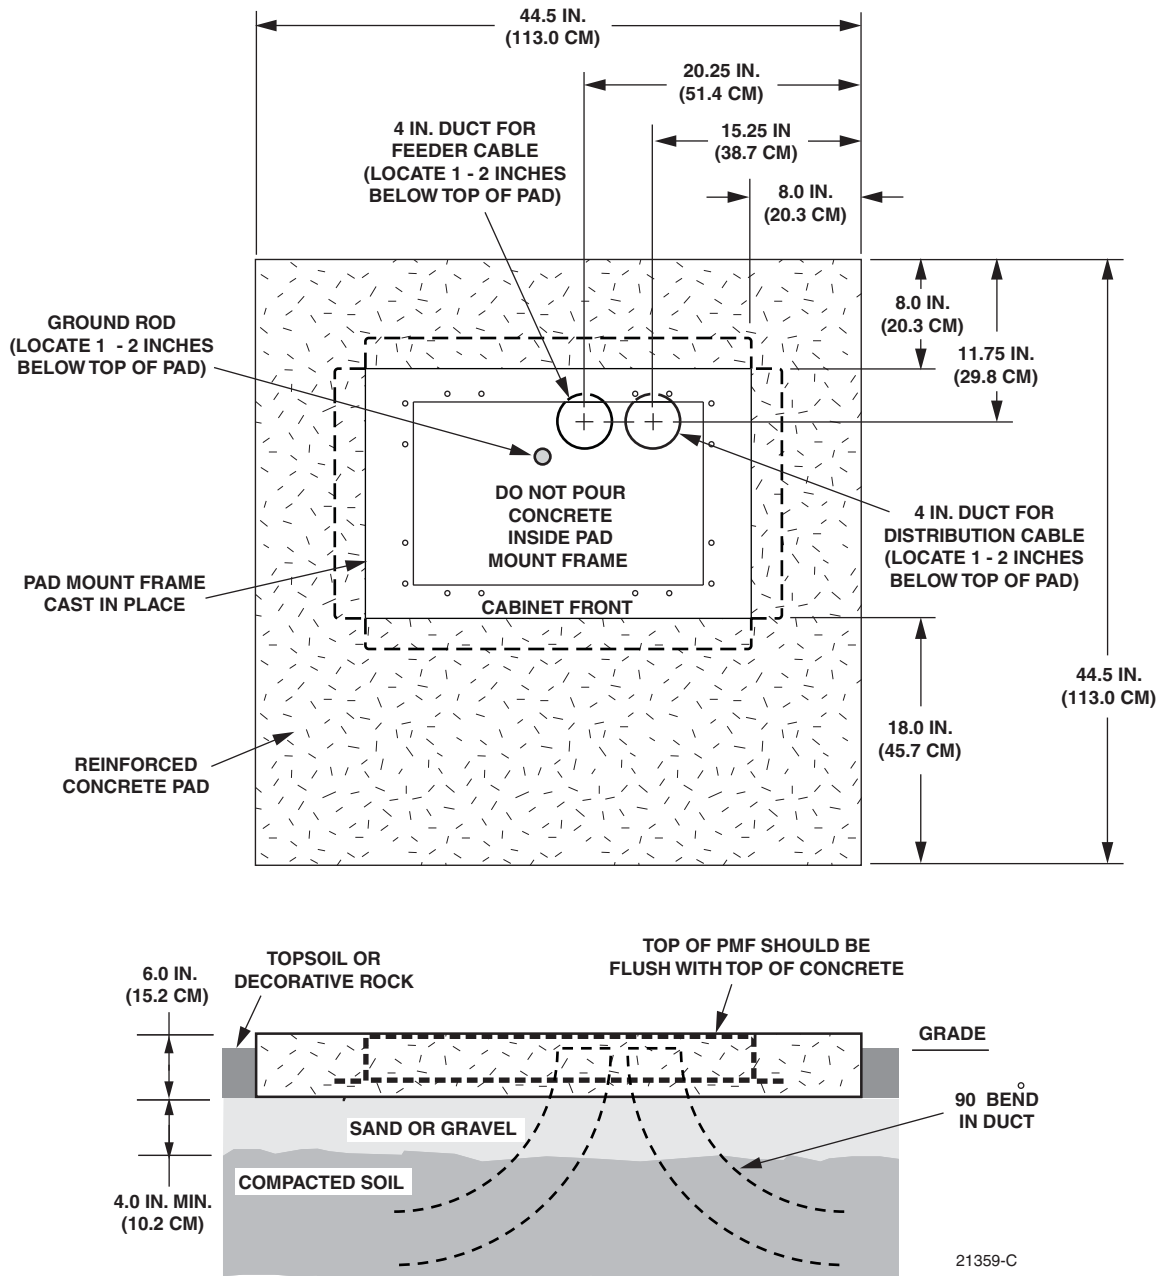

Figure 10. Constructing the Concrete Pad for the 288 Termination Cabinet With Splicing
Prepare a base for the concrete pad that meets all local code requirements. The base must have a footing of 4 to 6 inches (10.2 to 15.2 cm) of sand or gravel (per local practice) on firmly compacted soil. Refer to the construction diagram in Figure 10 for details.
2. Locate the PMF as shown in the construction diagram (see Figure 10). When installed, the top surface of the PMF must be flush and level with the top of the concrete pad.
Install a grounding system (not provided) that meets all local electrical codes. Check local codes for grounding system installation, use of clamps, wire size, and any other grounding requirements. Typically, #6 AWG copper wire is used for the ground wire. If the grounding system includes a ground rod, install the rod (see Figure 10) within the PMF opening at the indicated point. When installed, the top of the rod should be located 1 to 2 inches (2.54 to 5.08 cm) **below** the top of the finished concrete pad. Leave sufficient slack in the grounding wire to allow it to be routed into the cabinet after the cabinet is mounted on the pad.